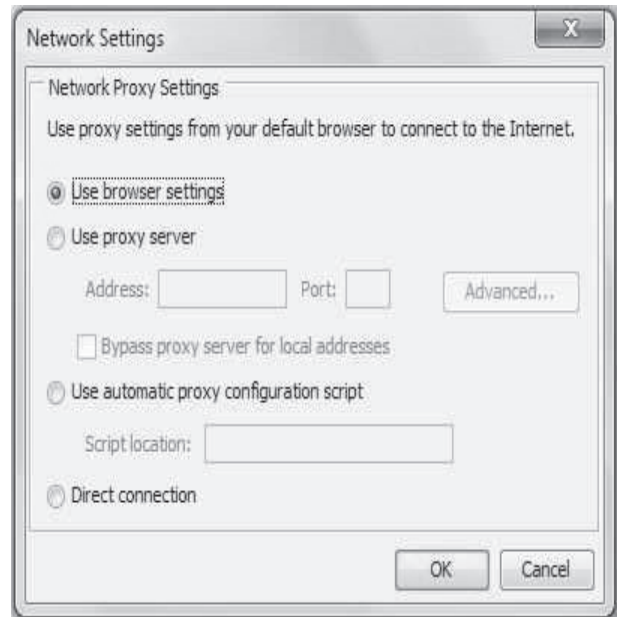

Fig. 66 — Network Settings
- **Network settings:** In the Java Control Panel, click Network Settings. Select a direct connection to bypass the proxy server or select the automatic configuration script. See Fig 66.